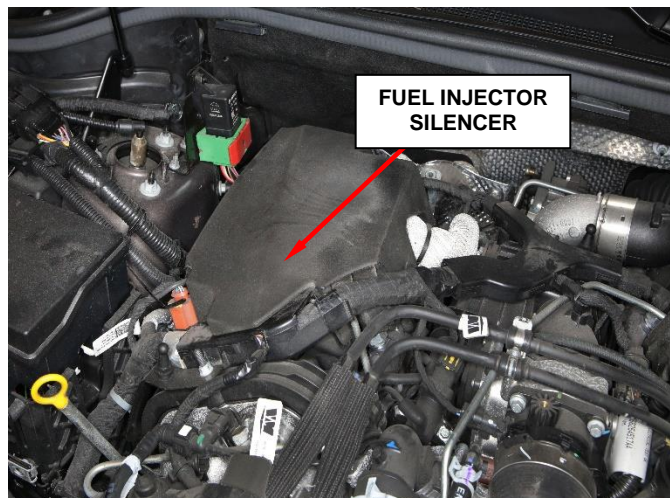

Figure 29 – Fuel Injector Silencer
9. Remove the right side fuel injector silencer (Figure 29).
34. Install the fuel injector silencer (Figure 29).